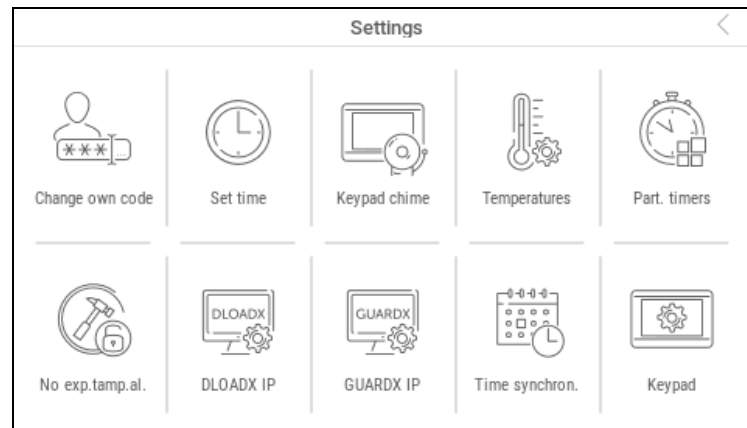

Fig. 37. "Settings" screen (example).
5. Tap the “Settings” function. The “Settings” screen will be displayed (Fig. 37).